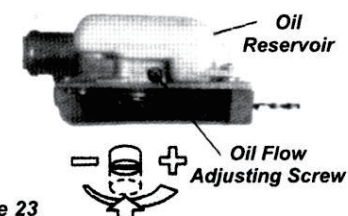

Figure 23
2. Place the unit on its side with the oil Reservoir up. See Figure 23.